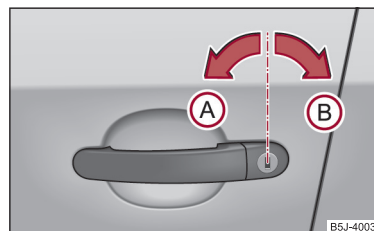

Fig. 26 Turning the key for unlocking and locking the vehicle
- Turn the key in the locking cylinder of the driver's door in the direction of travel (unlock position) **A** ⇒ fig. 26.
- Turn the key in the locking cylinder of the driver's door in the opposite direction of travel (lock position) **B** ⇒ fig. 26. ►